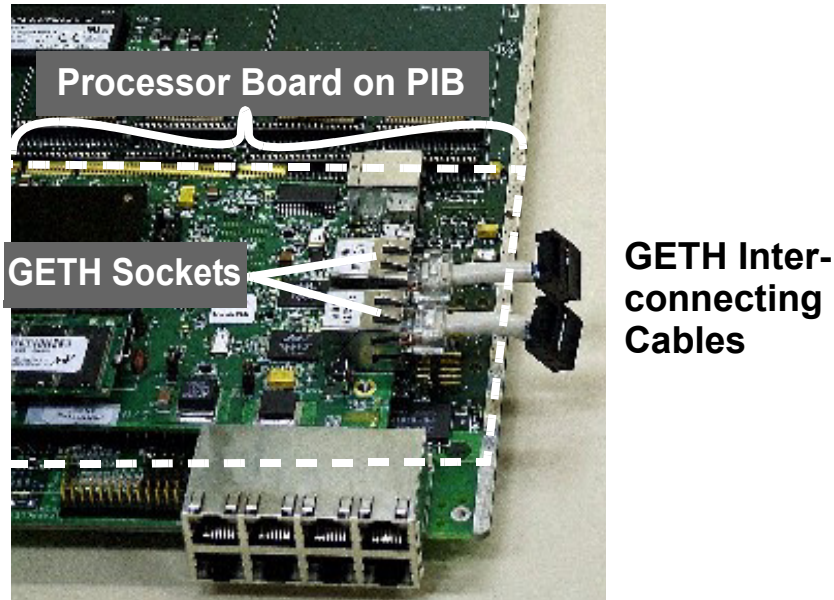
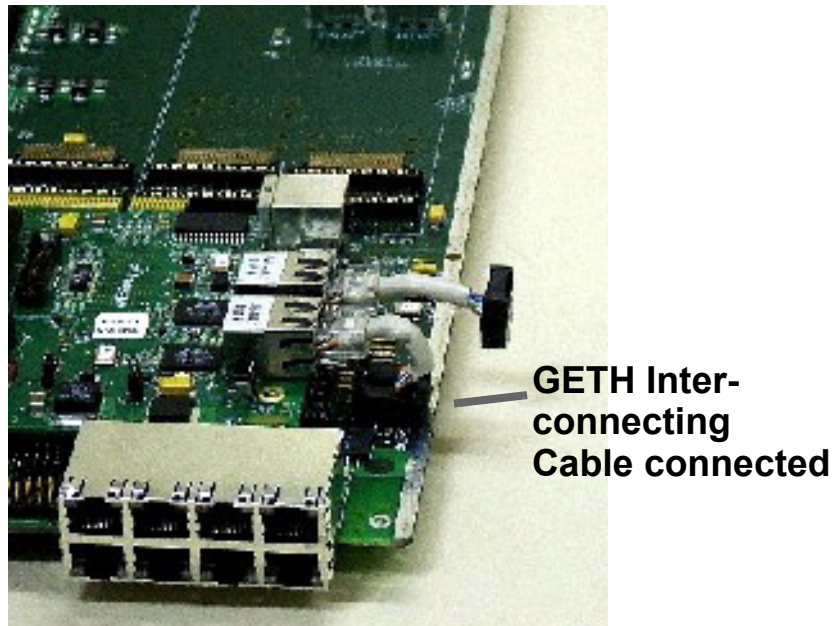

Figure 2-8 Insert GETH interconnecting cables to GETH sockets on Processor board
Figure 2-9 Connect GETH interconnecting cables to sockets on PIB
6. If you will be working with a back plane, and wish GETH signals to traverse either the back plane connection, or the front plane optical connection, connect the two GETH sockets on the MPC8349E MDS Processor Board with sockets on the PIB board as shown in Figure 2-8 and Figure 2-9.